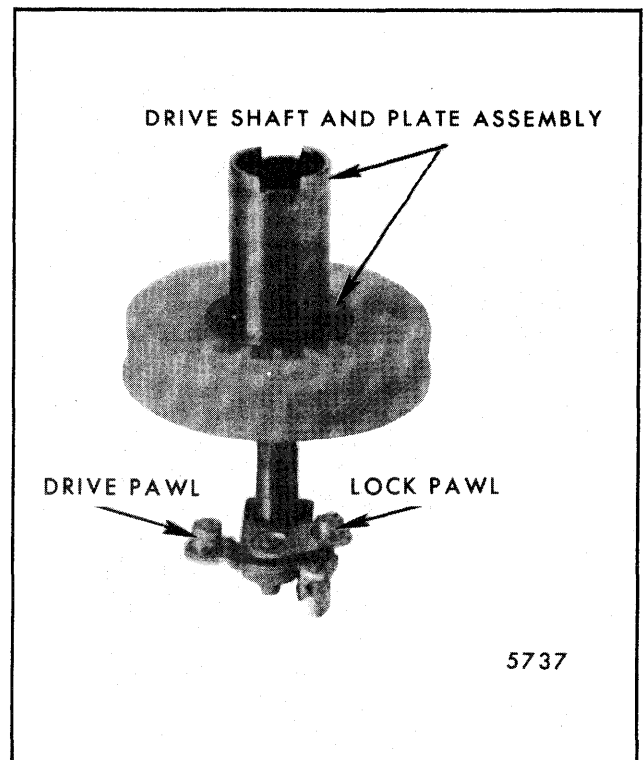

Fig. 2-44-Gear Removed
3. Slide drive plate and shaft out of gear and tube (Fig. 2-44), and remove the drive pawl, lock pawl and coil spring as required. Save the inside spacer washer for reassembly.
1. Position drive and lock pawls on drive plate as shown in Figure 2-44.